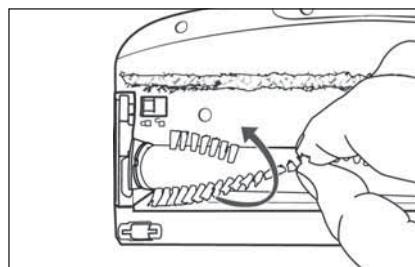

Fig. 25
- 3) Pull the rotary brush ⑩ out of the floor brush ⑪ by the bristles. Turn the rotary brush ⑩ slightly to make it easier to remove (see Fig. 25).